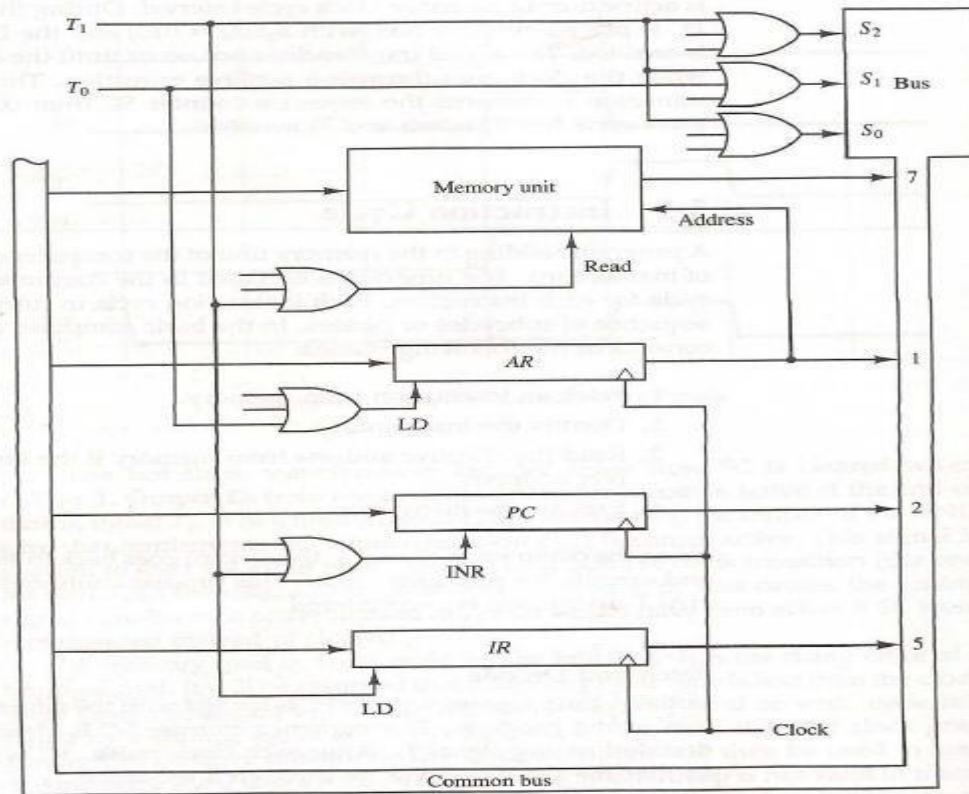

Figure 5-8 Register transfers for the fetch phase.
- Figure 5-8 shows how the first two register transfer statements are implemented in the bus system.